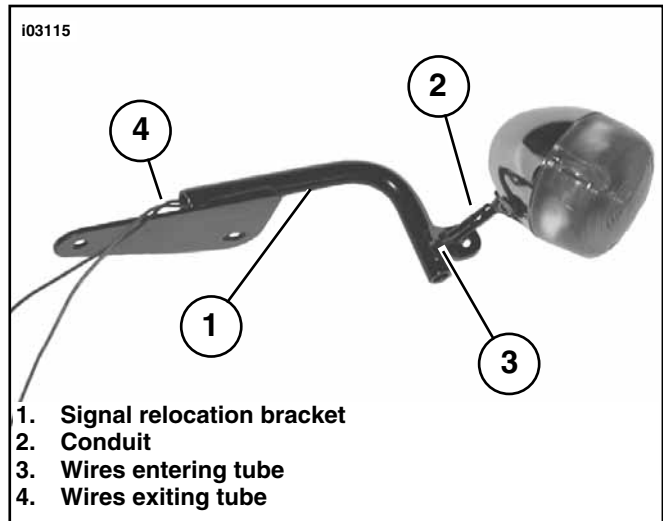

Figure 6. Install Wiring and Conduit into Bracket
7. **Standard Style Signal Lamps** See Figure 6. Obtain left signal lamp housing removed in previous step and left turn signal relocation bracket (1)(Part Number 90139-00). Remove conduit (2) and cut wiring 12 inches from entrance to lamp housing. Moisten wires with wet paper towel or rag and insert wires through relocation bracket (3) as shown until wires exit from opposite end of tube (4). Slide conduit down to protect wiring at wire entrance of relocation bracket.
8. **Deuce Style Signal Lamps:** See Figure 6. Obtain left signal lamp housing and left turn signal relocation bracket (Part Number 90139-00). Cut wiring 12 inches from entrance to lamp housing. Moisten wires with wet paper towels or rag and insert wires through relocation bracket as shown until wires exit from opposite end of tube.
9. See Figure 6. Install small black rubber plug (2) (Part Number 53644-00) to cover opening of tube on bracket. Repeat for other side.